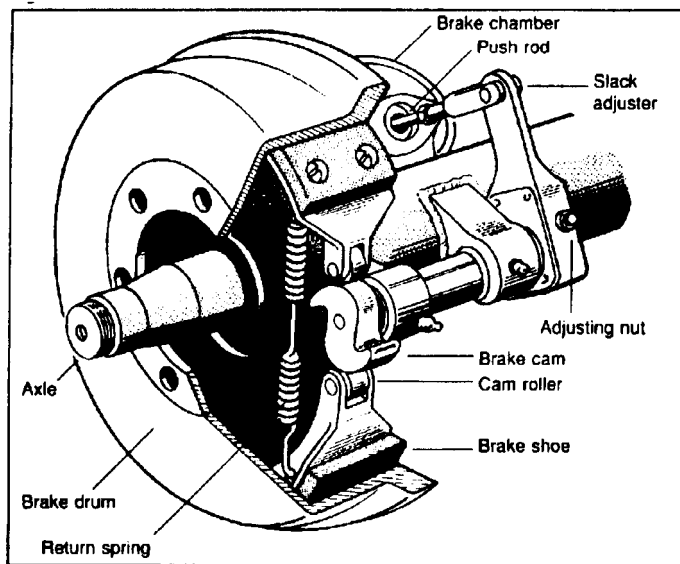

Figure 5-2. S-cam air brake
- The most common type of foundation brake is the S-cam (Figure 5-2). When you push the brake pedal, air supplied to each brake chamber. Air pressure pushes the rod out, moving the slack adjuster. This twists the brake cam shaft and turns the S-cam. The S-cam forces brake shoes away from one another and press them against the inside of the brake drum. When you release the brake pedal, the S-cam rotates back away from the brake drum. A spring pulls the brake shoes away from the drum. When released, the wheels can roll freely again.